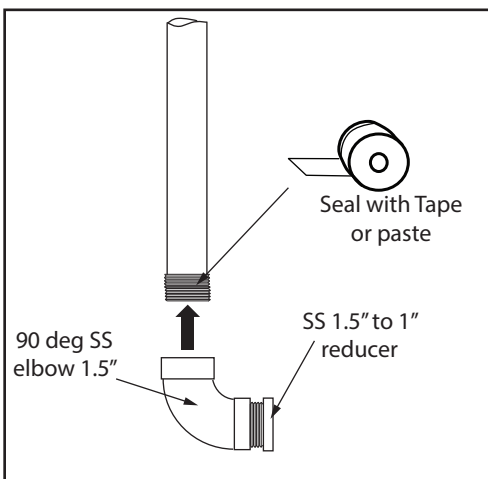

FIG. 8
- A) Attach provided steel 90 degree elbow to pipe with sealing tape or paste (see FIG 8)